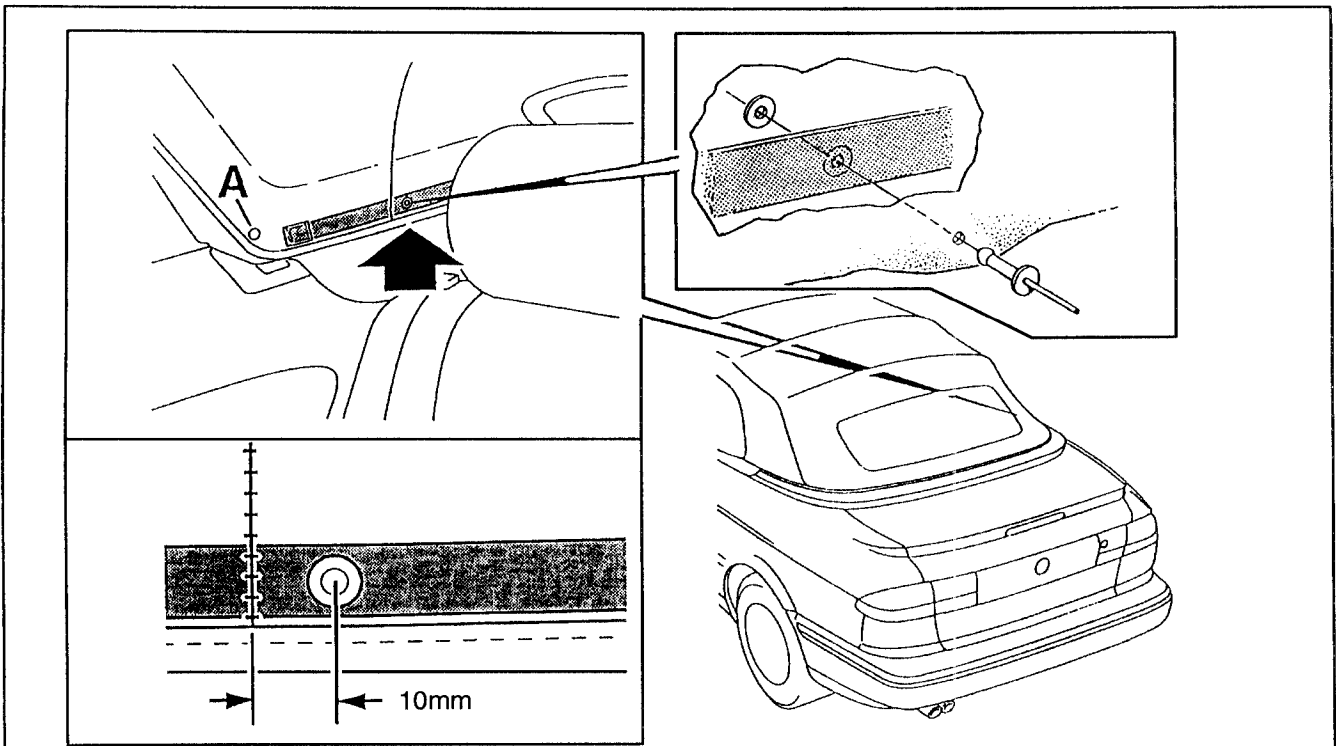

Figure 9. Riveting Elastic Strap
2. Check whether the headliner fabric has come loose at rivet A (see Figure 9 on following page). If it has come loose, fit a new rivet, P/N 82 35 178.
5. Using a pair of punch pliers or an awl, make a hole about 5/32" (4mm) in diameter through the headliner and elastic strap about 3/8" (10mm) behind the headliner seam. Make sure that the hole comes in the middle of the elastic strap. See Figure 9 on the following page.